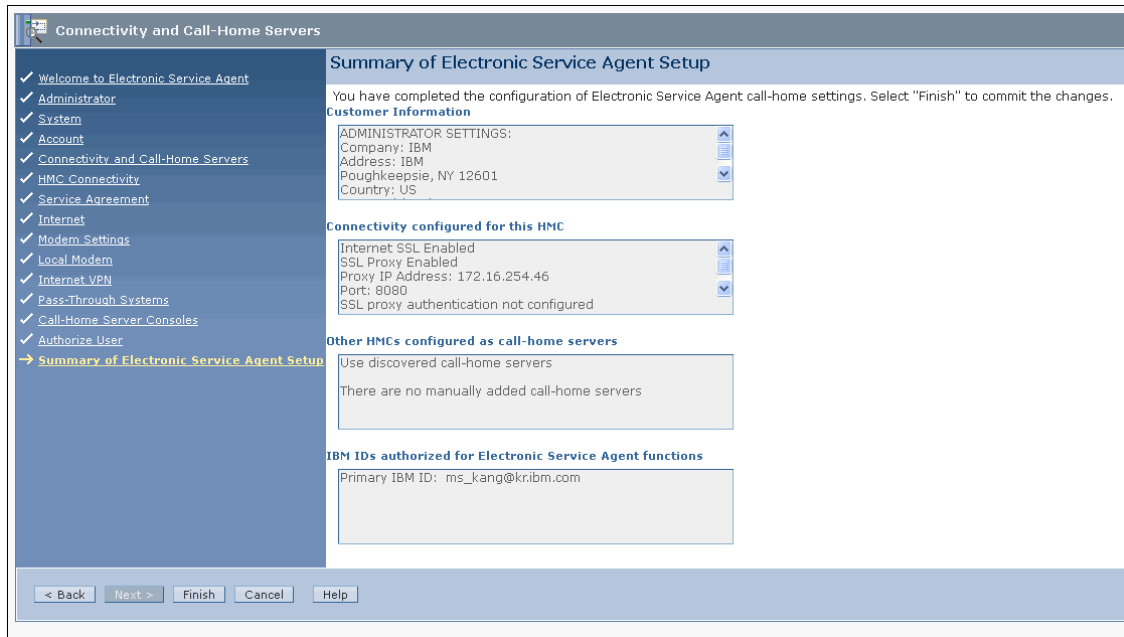

Figure 3-29 Summary of ESA
41. Click **Next** to continue with the Call Home Setup Wizard. The summary window is displayed (Figure 3-29). You can see all the changes that the Call Home Setup Wizard configures later. At this stage, nothing changed on the HMC. You can cancel the changes by clicking **Cancel**.